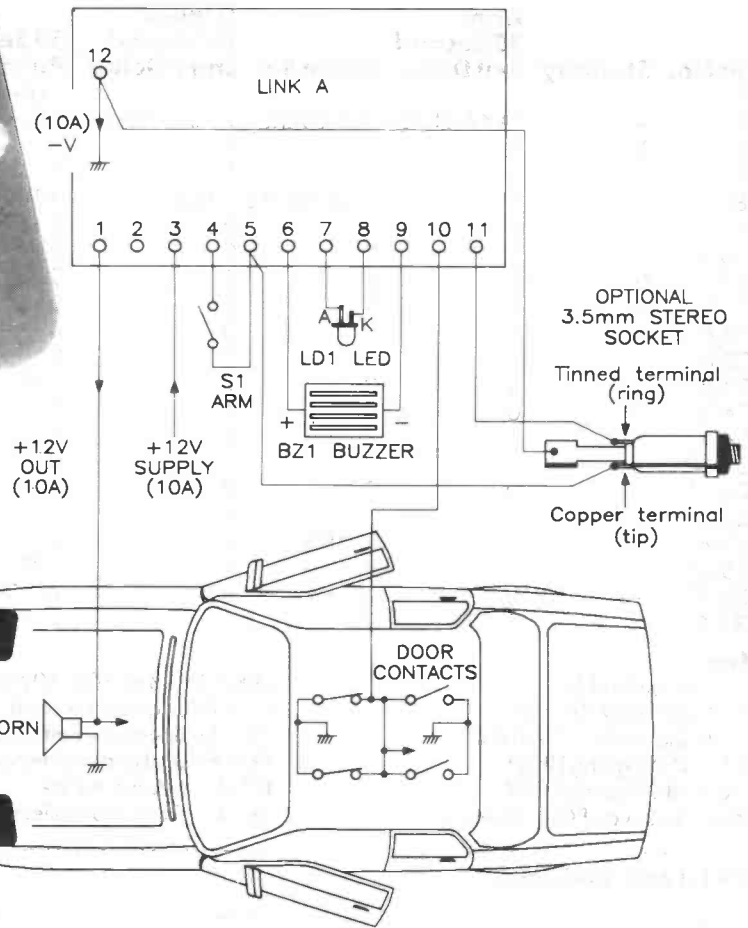

Figure 5. Link A wiring.
All the information required to help you with soldering and assembly techniques, should you need it, can be found in the Constructors' Guide included in the kit (also separately available as stock code LP65V). Removal of a misplaced component can be fairly difficult without causing too much damage, so *please* double-check each component type, value and its polarity where appropriate, before soldering! The printed circuit board (PCB) has a legend to assist you in correctly positioning each item, see Figure 4. Install, solder and trim the excess leads from all the components commencing with the resistors and capacitors, and finishing with the IC sockets, diodes and transistors last. Only after all other components have been fitted do you then carefully insert the relevant ICs into their sockets making sure to correctly align the pin number 1 marker at one end of each DIL package with the white block on the legend. All the ICs in this design are CMOS types which can be at risk from static electric charge during handling, so do not remove them from their protective packaging until they are needed and handle them carefully when you do so. The off-board items LD1, BZ1 and S1 can be temporarily soldered to the appropriate terminals for testing, see Figure 5.
1. If the horn has one of its terminals connected directly to earth (vehicle body) link A must be fitted, see Figure 5.
Make sure that you have the correct link (A or B) fitted and with reference to Figure 5 or 6 proceed as follows:
4. Double check which horn wiring is correct for your type of vehicle, see Figures 5 and 6. Then connect a 10A insulated wire from P1 to the horn as shown.